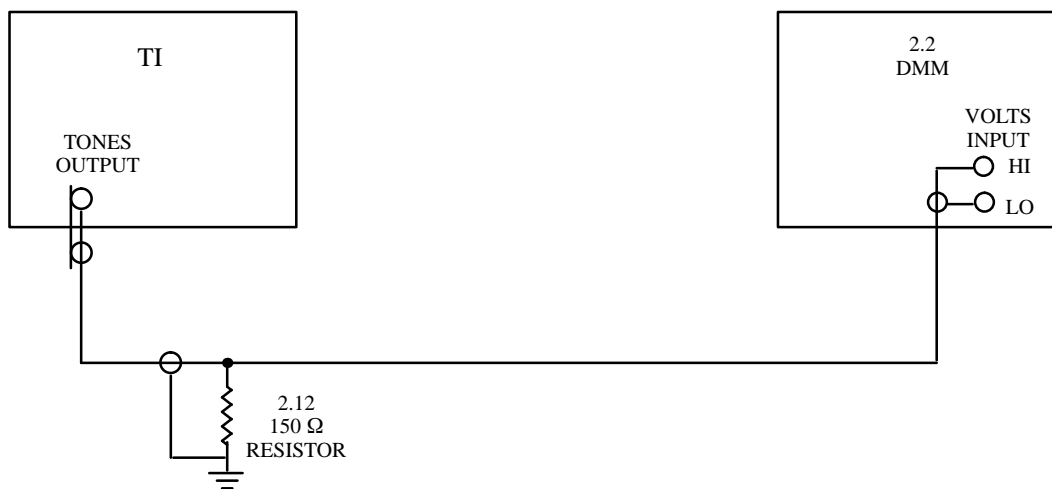

Figure 3. SINAD Preliminary Test Configuration
4.9.2 Connect the equipment as shown in Figure 3.